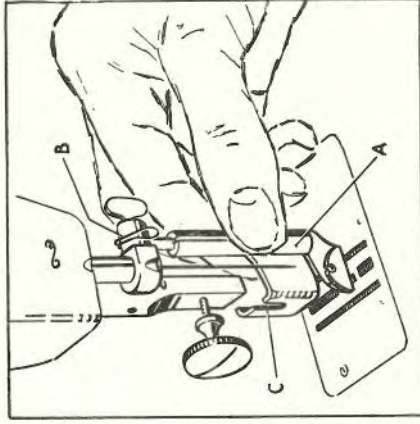

Fig. 56.
Move the needle bar up to its highest position and screw out the presser foot screw about  $\frac{1}{4}$  in. Then, holding the darning foot by its tubular part (A, Fig. 56), hook the spring (B) over the needle clamp. Press the holder (C) hard against the presser bar, push it up under the screw, and tighten the screw.